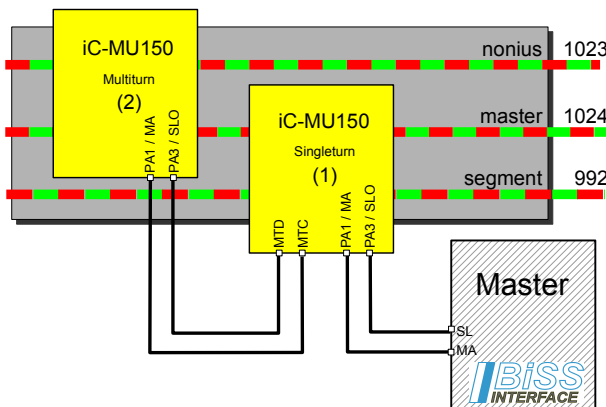

Figure 42: 3-track nonius with 2 iC-MU150
The construction of such a system is shown as an example in Figure 42 and the configuration in Table 69.
Table 69: Configuration example for the 3-track nonius system of Fig.42
To facilitate the initial configuration of an iC-MU150 as a SSI multiturn device the command SWITCH can be used (see page 55). The singleturn iC-MU150 (1) in Figure 42 has to enable the direct communication to the multiturn sensor by setting GET\_MT to 1. The configuration of iC-MU150 (2) can take place using the BiSS protocol. After the configuration of the external multiturn MODEA\_NEW and RPL\_NEW are used to set the target configuration of MODEA and RPL. After